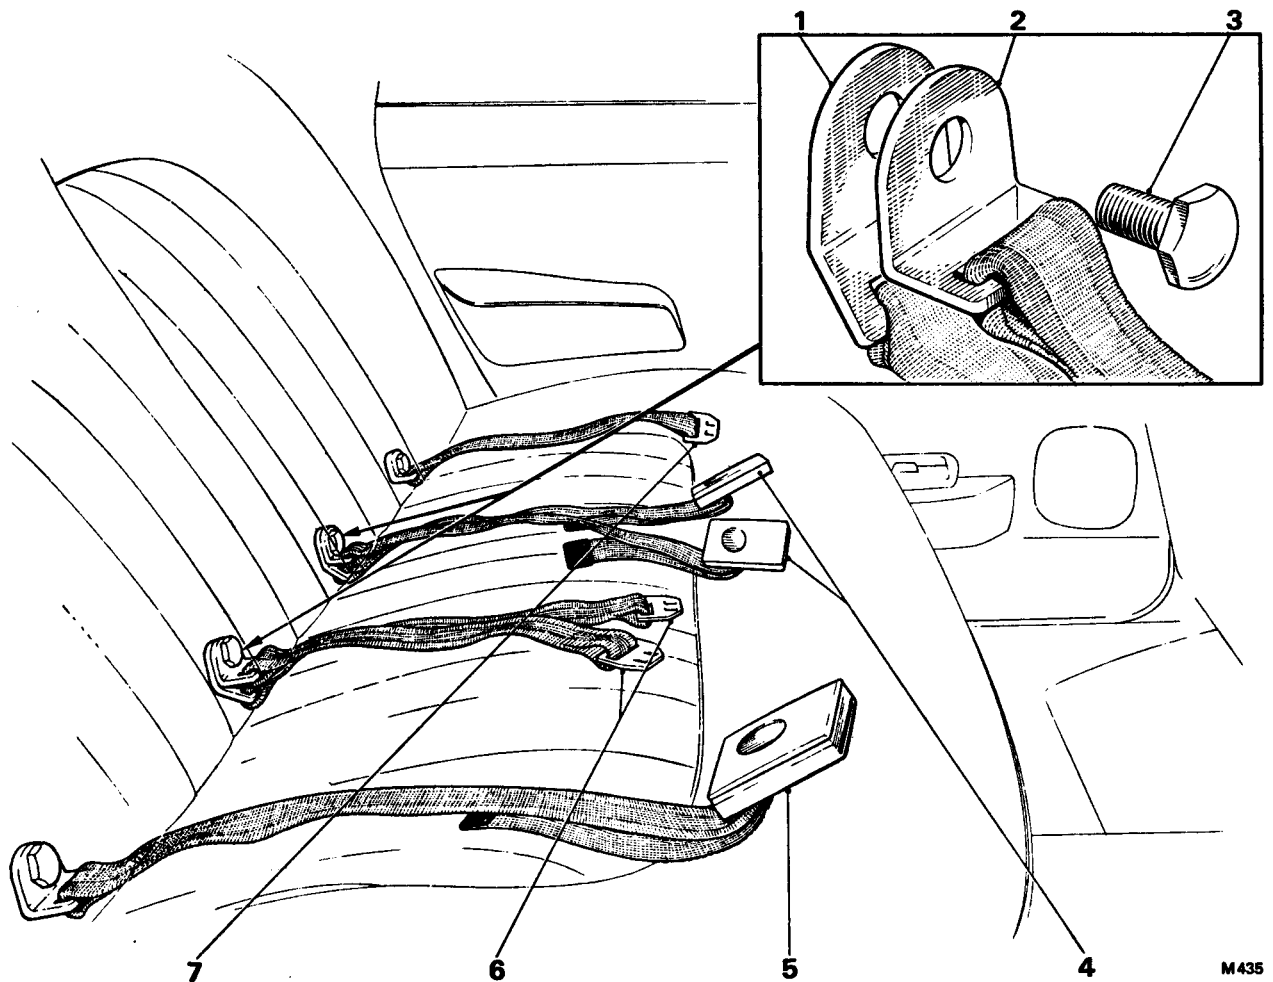

FIG. S106 LATER TYPE BRITAX REAR SEAT LAP BELTS IN POSITION
- (b) **Belt lugs bolted directly to the rear seat pan** (see Fig. S106). Remove the bolts securing the belt lugs to the seat pan. Note that when three sets of rear belts are fitted, the two inner bolts each secure two sections of a seat belt.
3. On cars where the seat lap belts are bolted directly to the rear seat pan, refer to Figure S106 which shows the correct positioning of the belt lugs when three rear seat lap belts are permitted.
- (b) **'Press-button' buckle** (see Fig. S106). To lengthen the belt, lift the lower end of the buckle until it is at 90° to the webbing when it will slide along the webbing quite freely.